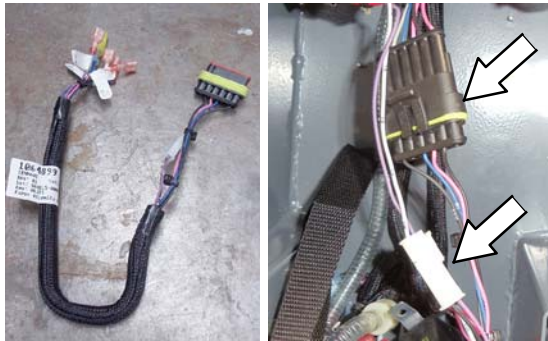

Fig. 6
- Connect the AGM battery jumper harness in its place (Figure 6).